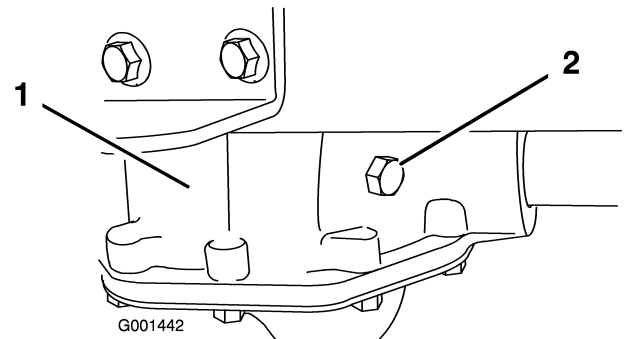

Figure 17
5. Locate and remove the check bolt in the transaxle housing (Figure 17).